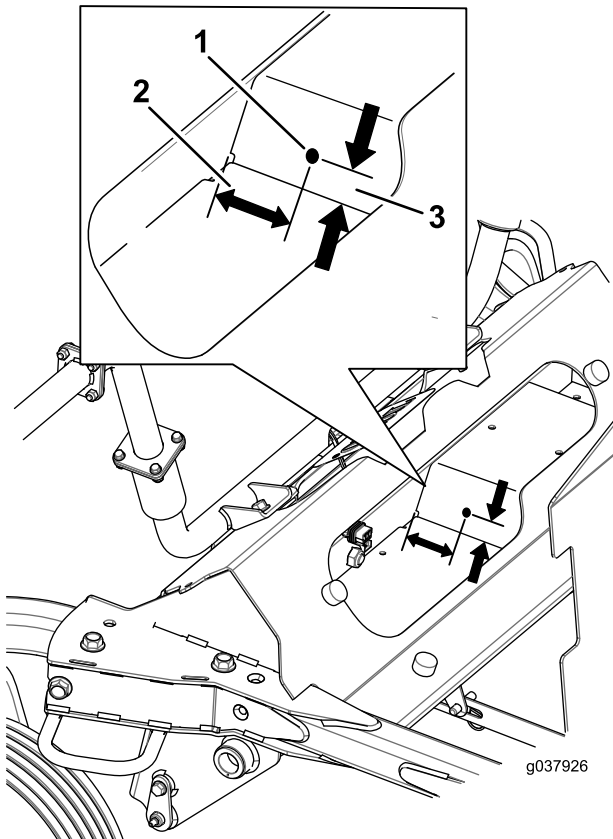

Figure 3
3. Drill the holes for the horn as shown in Figure 3.